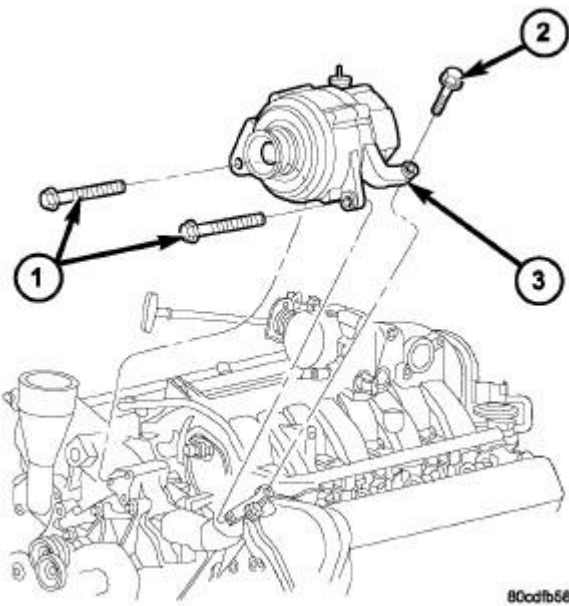

Fig. 6: Generator Removal/Installation
7. Remove generator (3) and secure away from engine. Refer to **Fig. 6**.